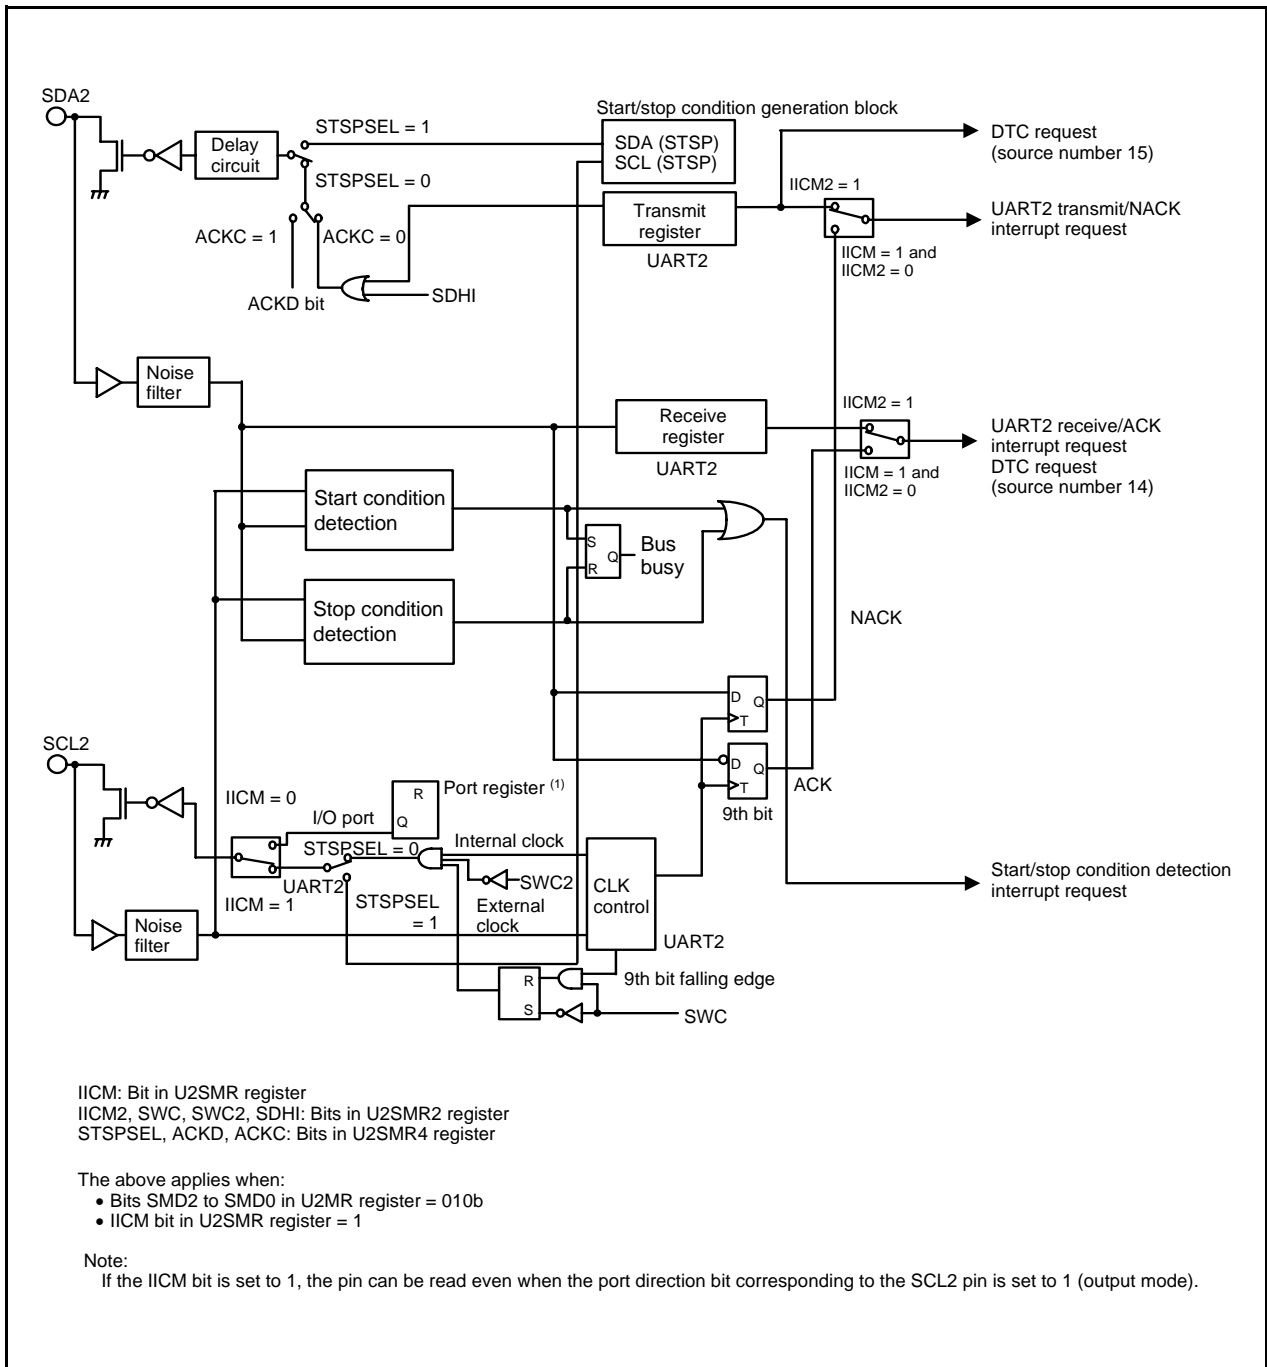
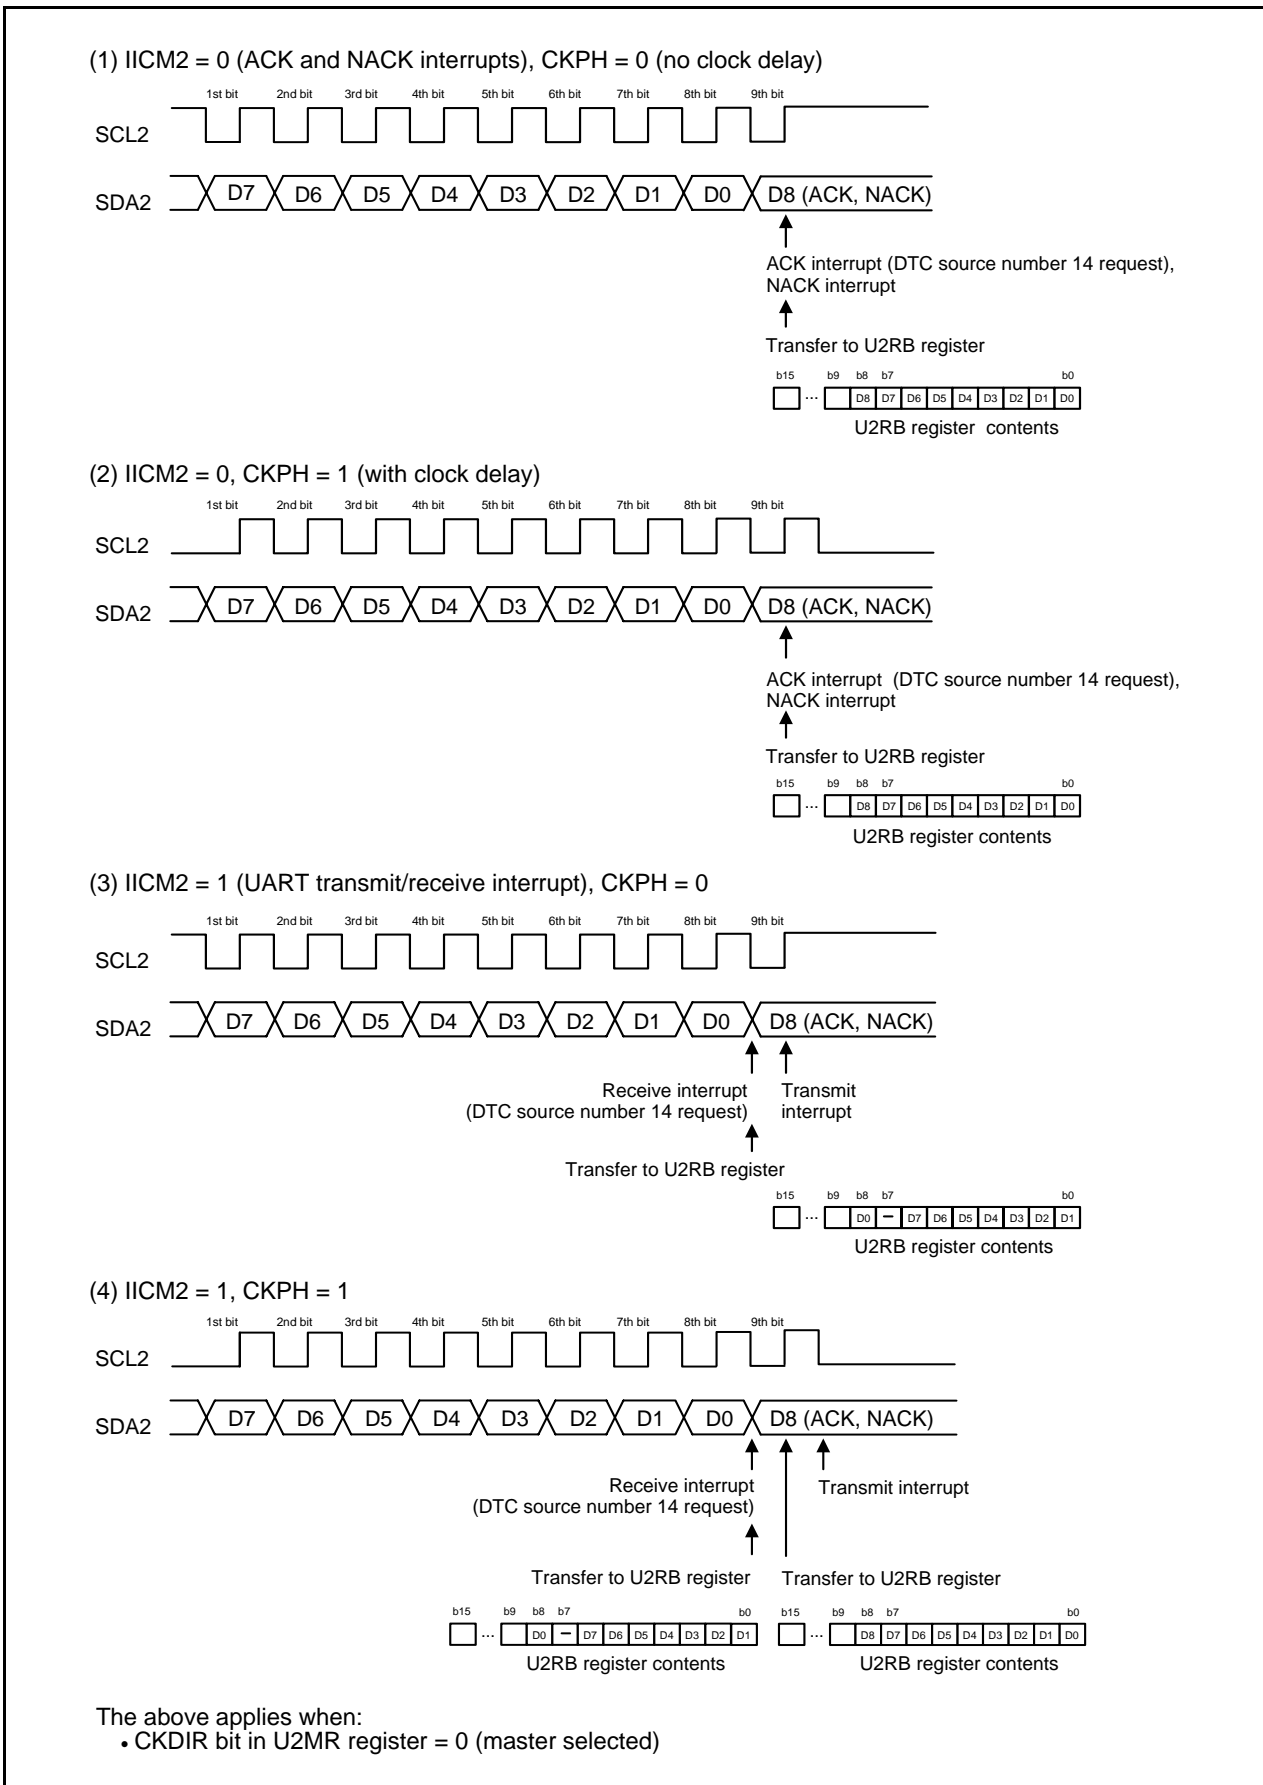

Figure 23.13 I²C Mode Block Diagram
Figure 23.14 Transfer to U2RB Register and Interrupt Timing
I²C mode is provided for use as a simplified I²C interface compatible mode. Table 23.9 lists the I²C Mode Specifications. Tables 23.10 and 23.11 list the registers used in I²C mode and the settings. Table 23.12 lists the I²C Mode Functions, Figure 23.13 shows an I²C Mode Block Diagram, and Figure 23.14 shows the Transfer to U2RB Register and Interrupt Timing.
6. Refer to **Figure 23.14 Transfer to U2RB Register and Interrupt Timing**.
The transfer clock is used to transmit and receive data as is shown in **Figure 23.14 Transfer to U2RB Register and Interrupt Timing**.